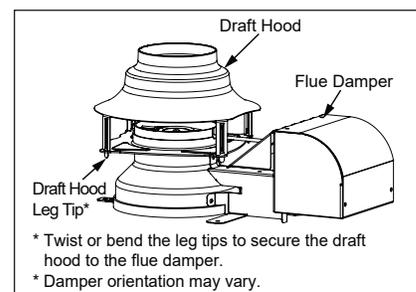

Figure 31 - Install the new draft hood.
- 1 Install the new draft hood by aligning the legs and inserting them into the slots on the flue damper's flange (see Figure 31). Do not reuse the draft hood from the old water heater, but rather use the new one that came with your new water heater.